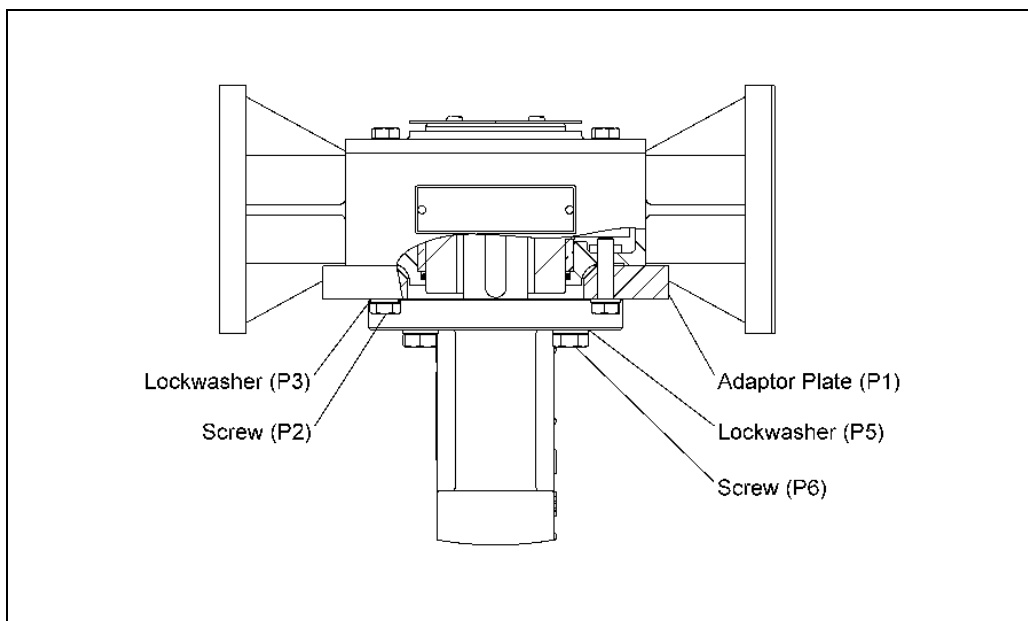

Figure 3 – Connecting Parts Identification
4. Remove screws (P2) and lockwashers (P3) and lift actuator assembly off valve. See Figure 3 for connecting parts identification.
2. Fasten the actuator assembly to the adaptor plate (P1) with lockwashers (P3) and screws (P2). See Figure 3 for connecting parts identification.
9. Remove the screws (P2) and lockwashers (P3) and lift the actuator assembly off valve. See Figure 3 for connecting parts identification.